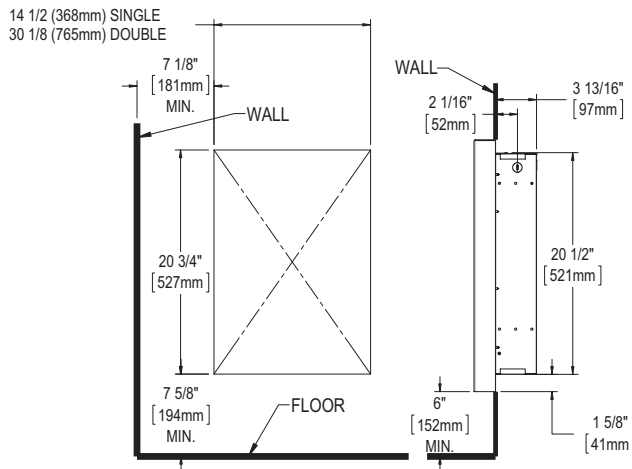

FIG. 2
4. For surface installation, put a wooden plate at the back of gypsum in order to fix the product to the wall securely. For the wooden plate dimensions, refer to the opening for the recessed application (see figures 2 and 3).
1. The opening in the wall must first be made in accordance with acceptable standards (see figures 2 and 3, and Warning).